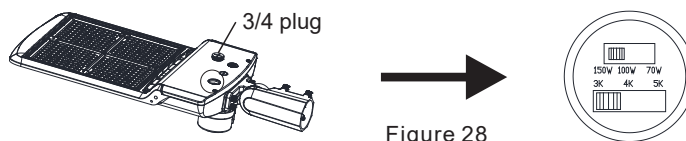

Figure 28
1. Unscrew the 3/4 plug, as shown in the figure 28;